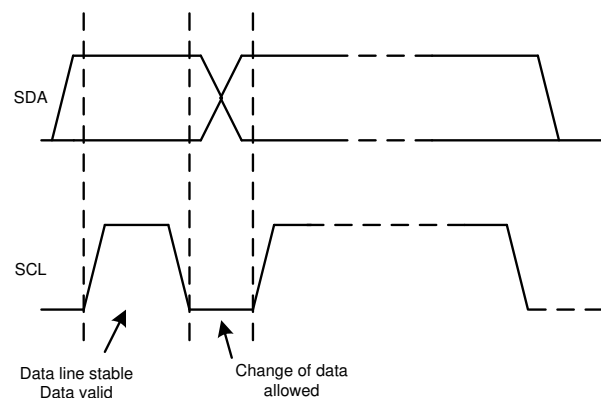

图 7-22. Bit Transfer on the I2C Bus
2. The controller then generates the SCL pulses, and transmits the 7-bit address and the read/write direction bit ( $R/\bar{W}$ ) on the SDA line. During all transmissions, the controller makes sure that data are valid. 图 7-22 shows that a valid data condition requires the SDA line to be stable during the entire high period of the clock pulse. All devices recognize the address sent by the controller and compare the address to the respective internal fixed address. Only the target device with a matching address generates an acknowledge by pulling the SDA line low during the entire high period of the 9th SCL cycle (see also 图 7-20). When the controller detects this acknowledge, the communication link with a target has been established.